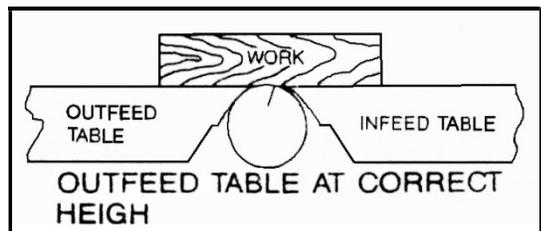

Fig. 13
As a final check of the outfeed table adjustment, run a piece of wood slowly over the knives for 6 to 8 inches should rest firmly on both tables as shown Fig. 13 with no open space under the finished cut.
2. Push or pull hand lever (A) to raise or lower table, gage (B) shows the distance the table has been raised or lowered as shown in Fig. 13